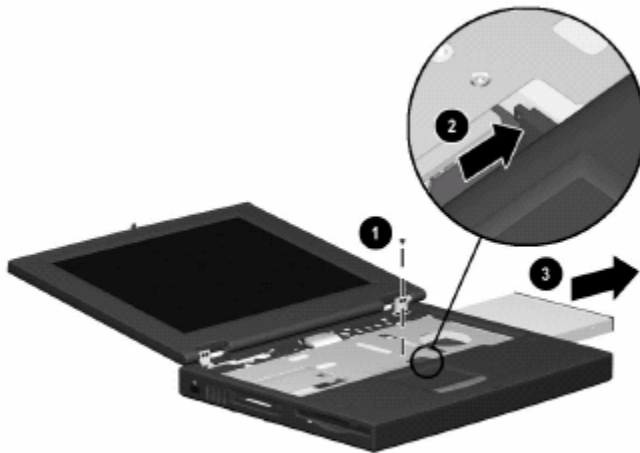

Figure 5-8: Removing the Optical Drive
2. Remove the M2.5 × 4.5 screw that secures the optical drive to the heat sink 1 (Figure 5-8).